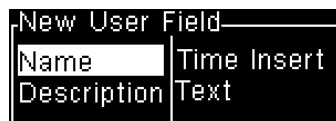

Figure 5-17: New User Field Window
- 4 Press Enter to open the New User Field window (Figure 5-17).